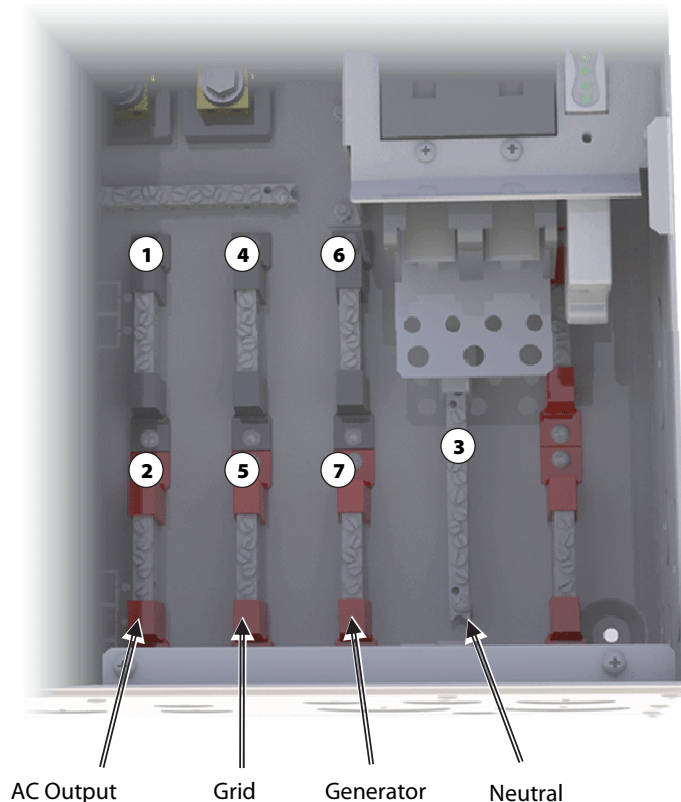

Figure 30 AC Terminal Bus Bars (split-phase)
If the GSLC has no bypass assembly, wiring connections should be made directly to each TBB from the Radian inverter, AC sources, and loads. These connections are designated in Figure 30.
1. Designate the top AC circuit breaker as the inverter AC output disconnect. Install a wire from the black AC output TBB (as shown in Figure 30) to the disconnect marked by ①.
2. Install a wire from the red AC output TBB to the disconnect marked by ②.
3. Install wires on the left side of the disconnect as marked by ③ and ④. Connect these wires to the appropriate L1 and L2 output terminals on the Radian inverter.
4. Designate the third AC circuit breaker from the top as the disconnect for one AC source (**GRID** or **GEN**). Install a wire from the black source circuit TBB (as shown in Figure 30) to the disconnect marked by ⑤.
5. Install a wire from the red source circuit TBB to the disconnect marked by ⑥.
6. Install wires on the right side of the disconnect as marked by ⑦ and ⑧. Connect these wires to the appropriate L1 and L2 input terminals on the Radian inverter (the terminals labeled either **GRID** or **GEN**).
8. Install a wire on the inverter's **NEU** terminal and connect it to the GSLC's neutral TBB (as shown in Figure 30). *Only one neutral connection is required.*